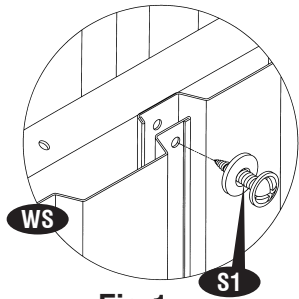

Fig.1
32. Continue to place the wall panel and secure with (S1) screws with washers. See fig. 1.